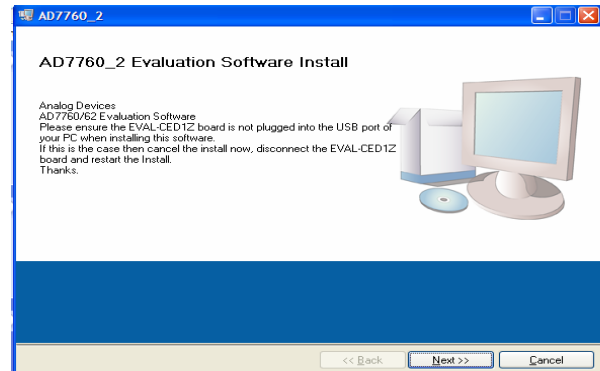

Figure 2. EVAL-AD7760_2EDZ Setup Dialog Box, Initial Software Install Screen
2. The dialog box shown in Figure 2 appears.